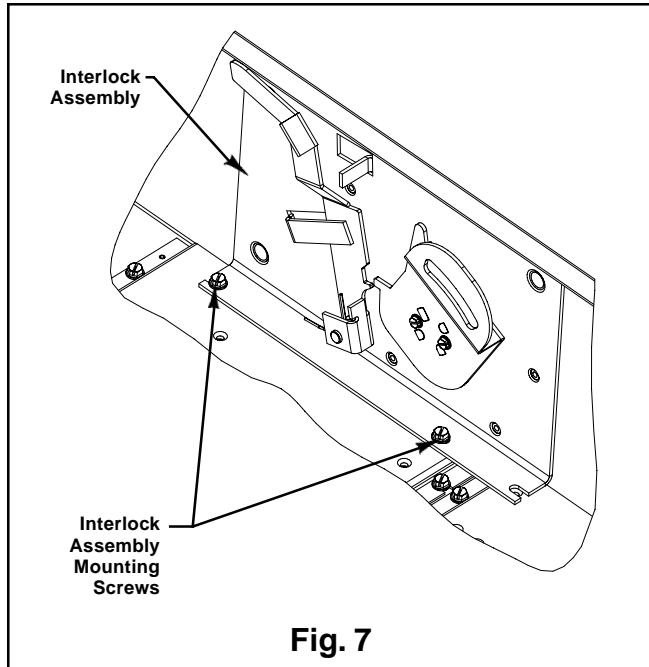

Fig. 7
8. Remove Interlock Assembly Mounting Screws and Interlock Assembly. See **Figure 7**.